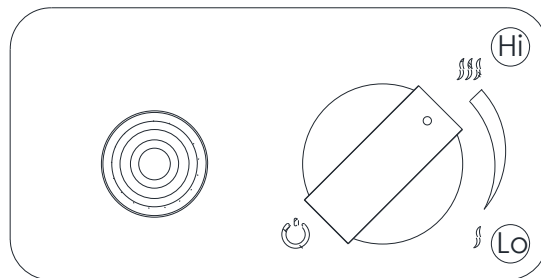

Fig 12 – Adjusting the flame high
- To achieve a higher flame turn the knob counter-clockwise to “Hi” position. To achieve a lower flame turn the knob clockwise to “Lo” position (Fig 12).